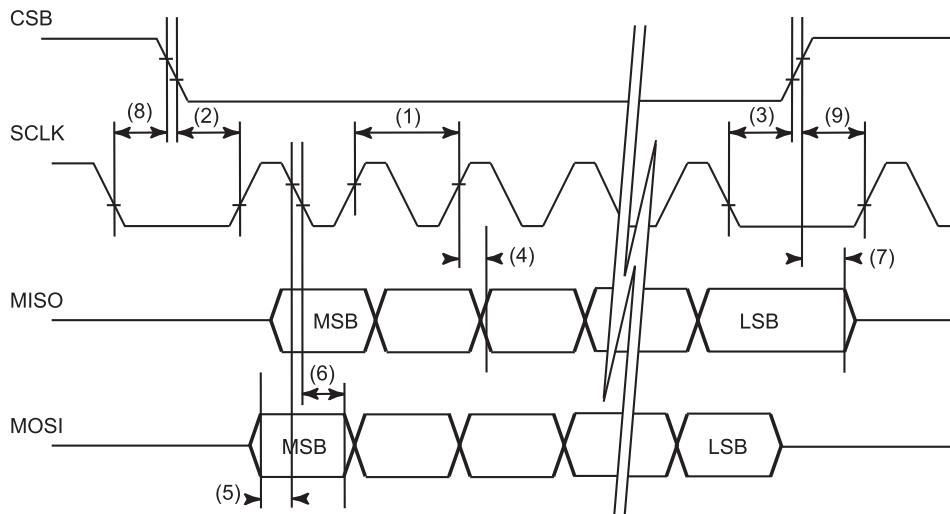

Figure 23. SPI timing
| f_{SCLK} | SCLK pin input frequency - (1) in Figure 23 | – | – | 10 | MHz | |
| $t_{\text{CSBF_SCLKR}}$ | CSB fall to first SCLK rise - (2) in Figure 23 | $1/f_{\text{SCLK}}$ | – | – | ns | (83) |
| $t_{\text{SCLKF_CSBR}}$ | Last SCLK fall to CSB rise - (3) in Figure 23 | $1/f_{\text{SCLK}}$ | – | – | ns | (83) |
| $t_{\text{MISO_VAL}}$ | MISO valid time - (4) in Figure 23 | – | – | $10 + t_{\text{DR}}/F_{\text{MISO}}$ | ns | (83)(84) |
| $t_{\text{MOSI_SET}}$ | MOSI setup time - (5) in Figure 23 | 10 | – | – | ns | (83) |
| $t_{\text{MOSI_HOLD}}$ | MOSI hold time - (6) in Figure 23 | 12.5 | – | – | ns | (83) |
| $t_{\text{CSBR_MISOT}}$ | CSB rise to MISO tri-state - (7) in Figure 23 | – | – | 15 | ns | (83) |
| $t_{\text{SCLKF_CSBF}}$ | SCLK fall (other device) to CSB fall - (8) in Figure 23 | 13 | – | – | ns | (83) |
| $t_{\text{CSBR_CLKR}}$ | CSB rise to SCLK rise (other device) - (9) in Figure 23 | 15 | – | – | ns | (83) |